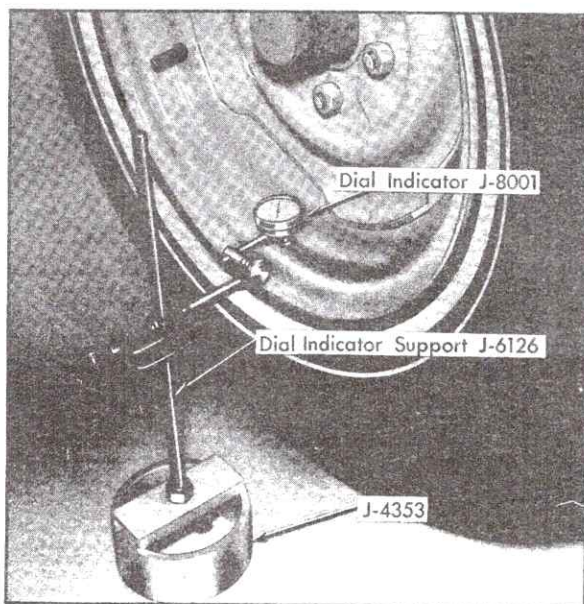

Fig. 10-10 Checking Radial Runout At Bead Seat (Except 693)
7. Check radial wheel runout at bead seat by positioning Dial Indicator Extension on bottom face of rim bead seat (90° from felloe band) Fig. 10-10. Set indicator at zero. Rotate tire and wheel assembly, note and record amount of runout. Mark rim where minimum and maximum runout occurs. Maximum runout as measured on rim bead seat should not exceed .035 inch.